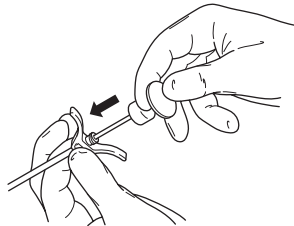

Figure 5 – Inject Augmentation Material Using the Cement Obturator
- Under fluoroscopic guidance, inject the augmentation material using the cement obturator (figure 5).